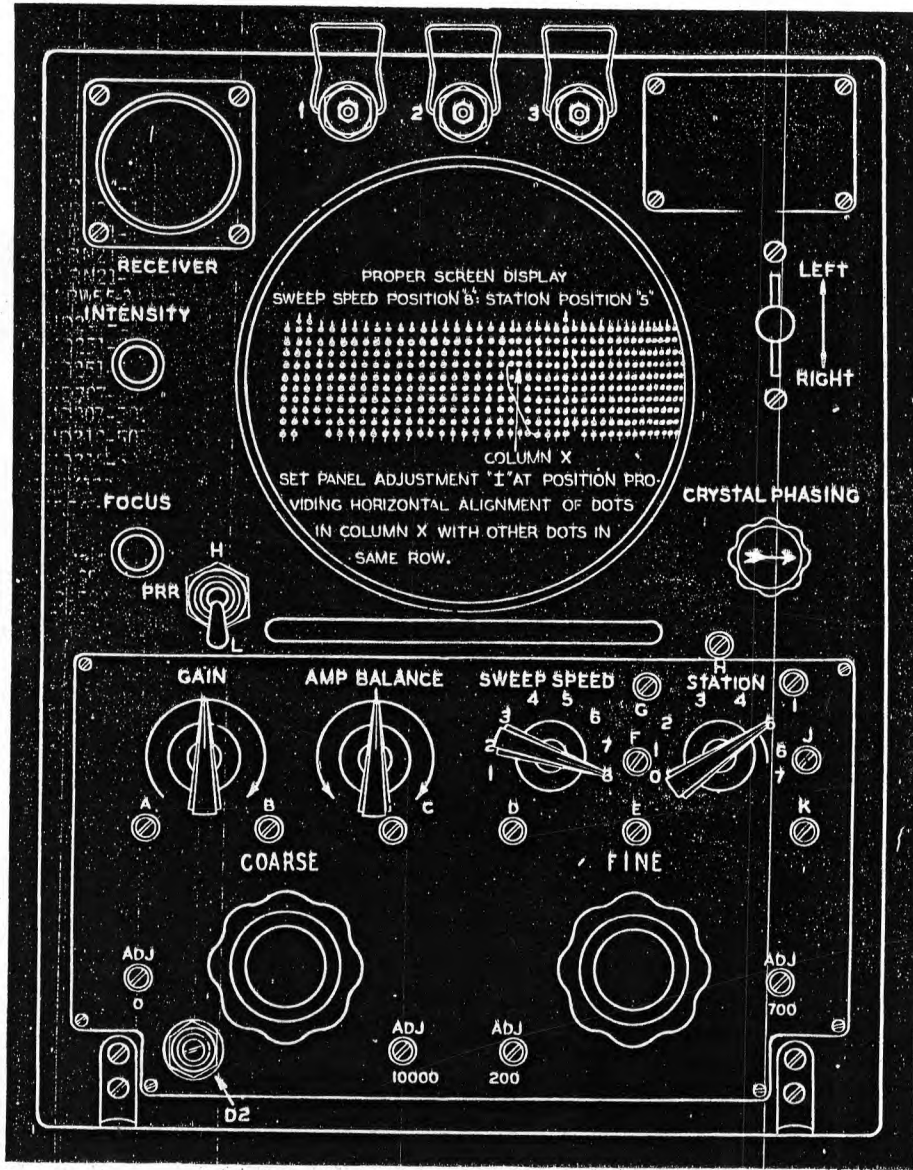

Figure 2-20A. Indicators *ID-6/APN-4 and *ID-6A/APN-4—Screen Display "STATION" Selector—Position "5"
2. Adjust panel adjustment "I" until the pattern shown in figure 2-20A is obtained. Adjust for exact horizontal alignment of the dots in column "X" with the dots in the columns on either side.